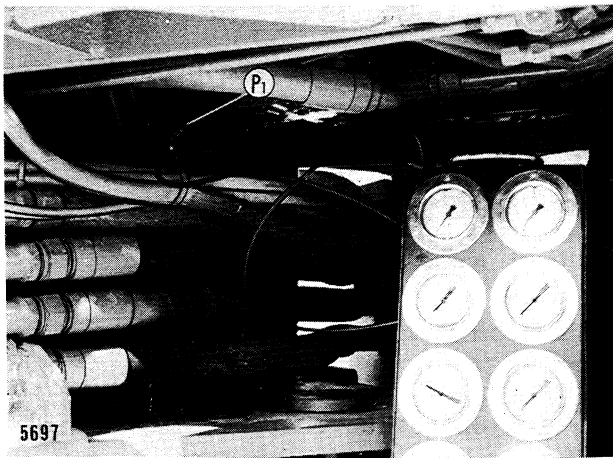

FIG. 6-42 CHECKING THE STEERING SYSTEM RATED PRESSURE SETTING
6.5.7 PRESSURE RELIEF VALVE SETTING ADJUSTMENT ON MACHINE (Fig. 6-42)